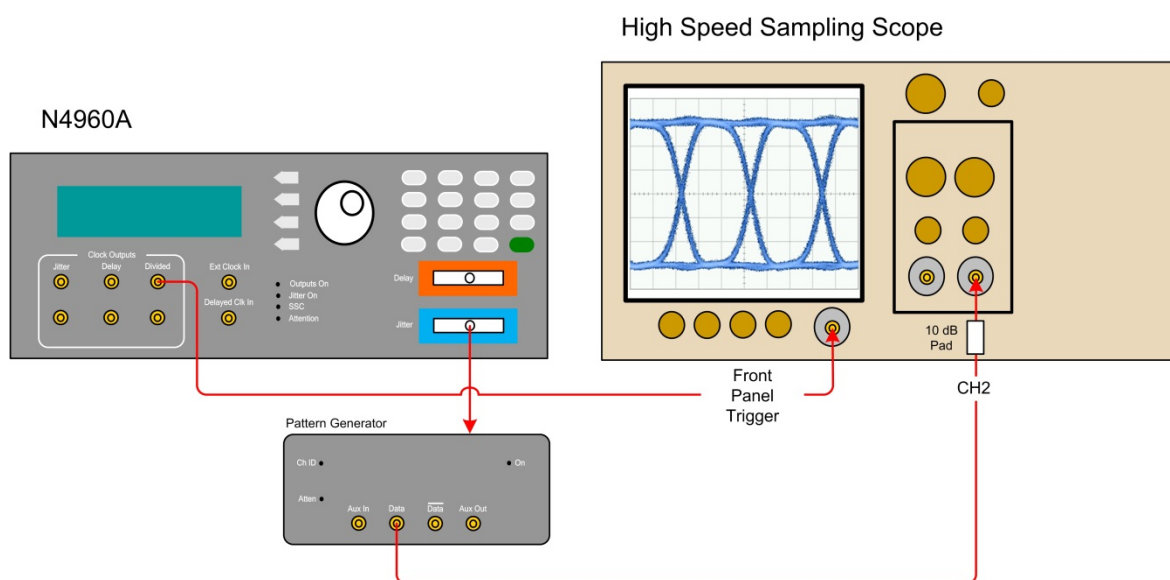

Figure 40. Setup for checking jitter
1. Connect the equipment as shown in **Figure 40**.